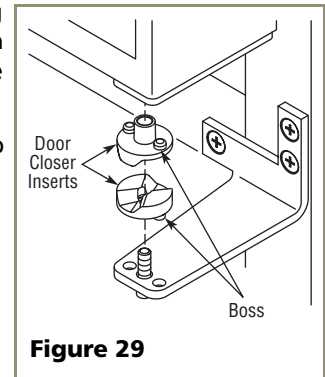

Figure 29
7. Reinstall the closers, lining up the bosses with holes in hinge and hinge plate (see **Figure 29**).